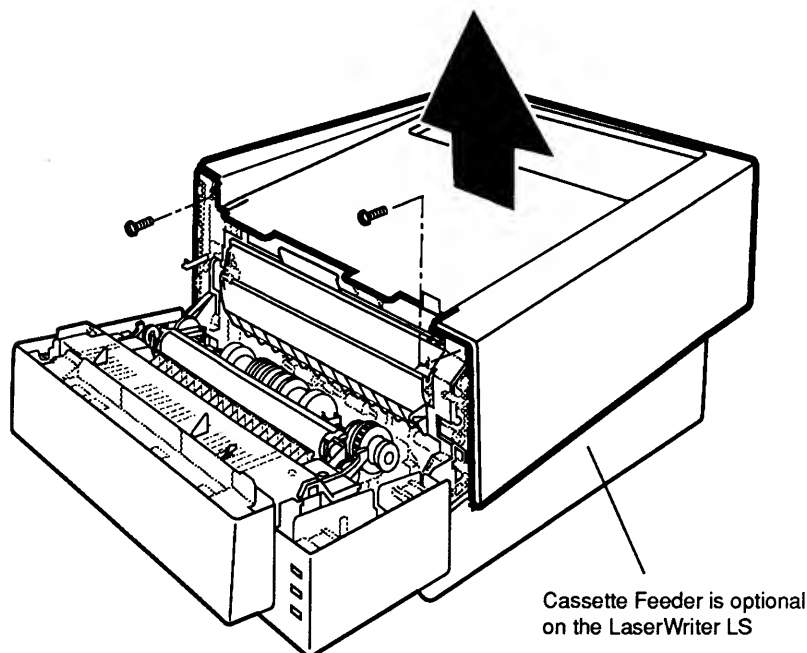

Figure 2-1 Top Cover
2. Remove the two screws that secure the top cover to the printer (**Figure 2-1**).
3. Lift the top cover straight up and set the cover aside (**Figure 2-1**).